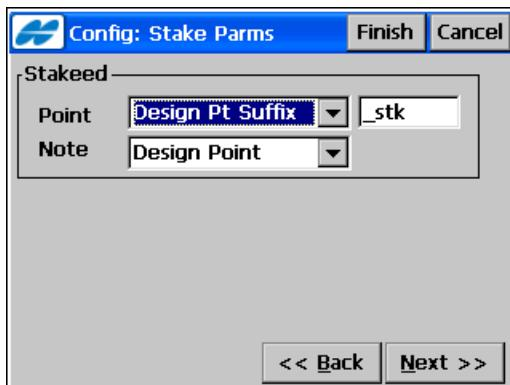

Figure 3-6. Stake Params - Second Screen
- **Next** – opens another **Stake Params** screen (Figure 3-6 on page 3-7).
The second (additional) *Stake Params* screen (Figure 3-6 on page 3-7) sets parameters to save staked points.